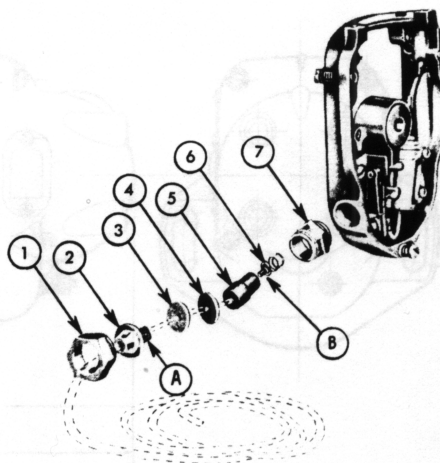

Figure 7. Ground Lead and Terminal Parts
On LA-4 and -6 Magnetos, attach the ground lead to the ground terminal parts as shown in figure 7. The metal cable sheathing is spread as indicated at (A) which holds the ground lead in position when secured between the ferrule (2) and washer (3). Solder the connections at (B). With the magneto switch in the "OFF" position and the ground lead attached install the ground terminal assembly in the magneto and tighten the self-locking nut (1).